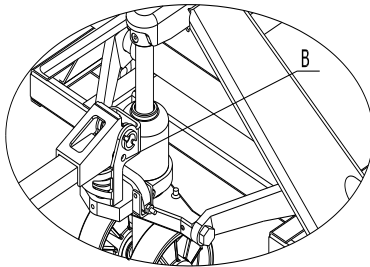

**Figure 1**
1. Please refer to Figure 1, and pull out the pin shaft 23.